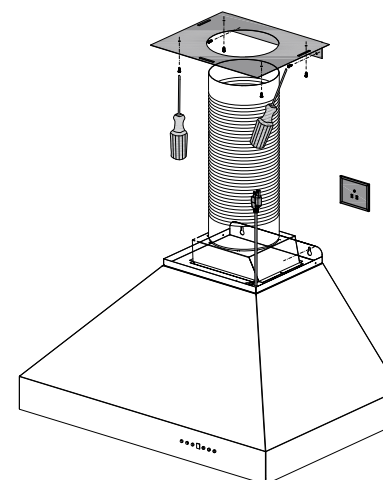

Figure 1
1. Attach crown molding bracket to ceiling using hardware provided. *Figure 1*